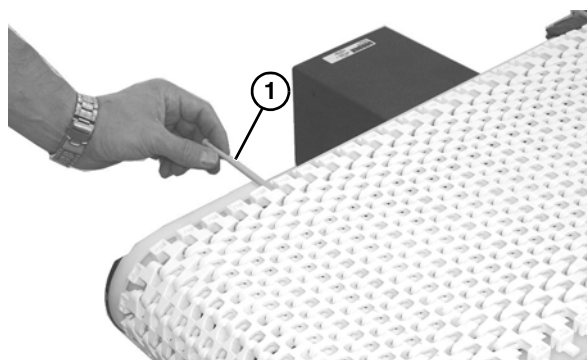

Figure 15
7. Insert the belt rod (**Figure 15, item 1**).